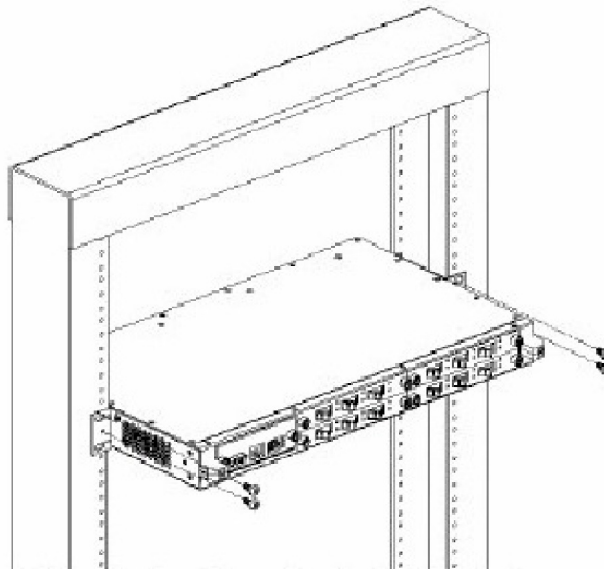

Figure 2 Mounting the chassis
- Attach the system to the rack as illustrated in Figure 2.